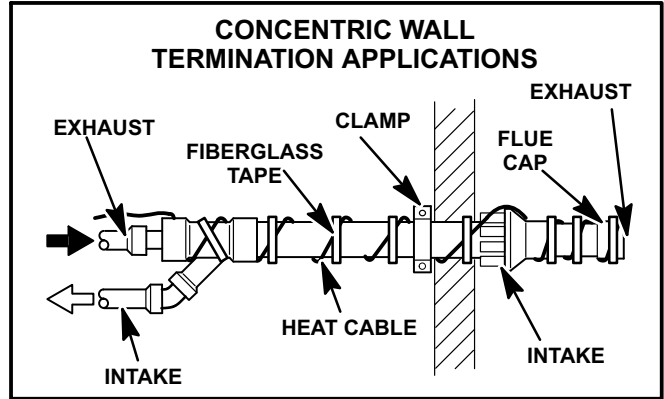

FIGURE 4
- 8 - Two methods may be used to apply the heat cable to concentric vent terminations. See figures 4 and 5. Figure 4 shows wrapping the heat cable around a concentric vent termination that has already been installed. The 24ft. heat cable is recommended for this method.